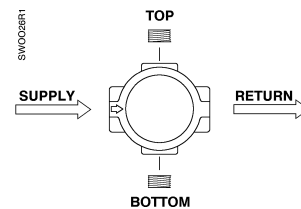

Figure 1. Positioning Switch Ports.
1. Using an adjustable wrench, attach two 1/8-inch NPT female brass fittings into the supply and return ports (*Figure 1*). The supply port is marked with an arrow → cast into the body.
2. Using an adjustable wrench, attach two 1/8-inch NPT female brass fittings into the supply and return ports (*Figure 1*). The supply port is marked with an arrow → cast into the body.